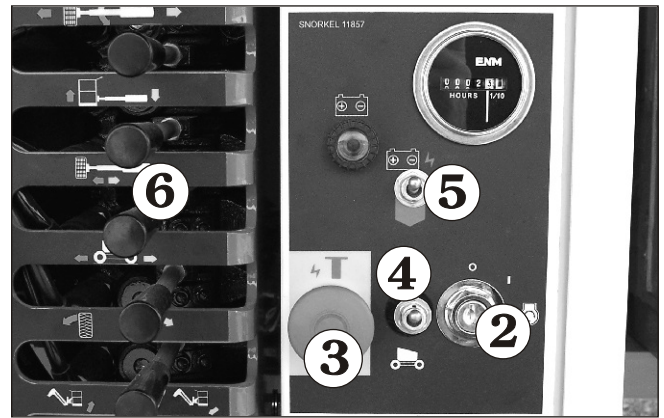

Figure 8.2—Ground Controls
2. Place the key in the master switch^② and turn the engine on (refer to Figure 8.2).